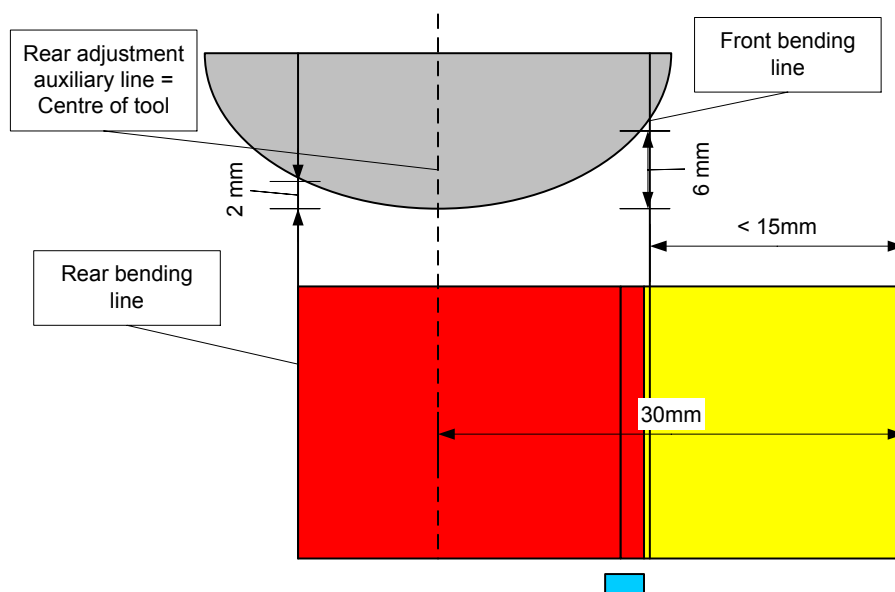

Fig. 9: Protected field⁷ for radii of tool class 2
- ▶ Semi-circular tools (radius between 25 and 50 mm), see Fig. 9.